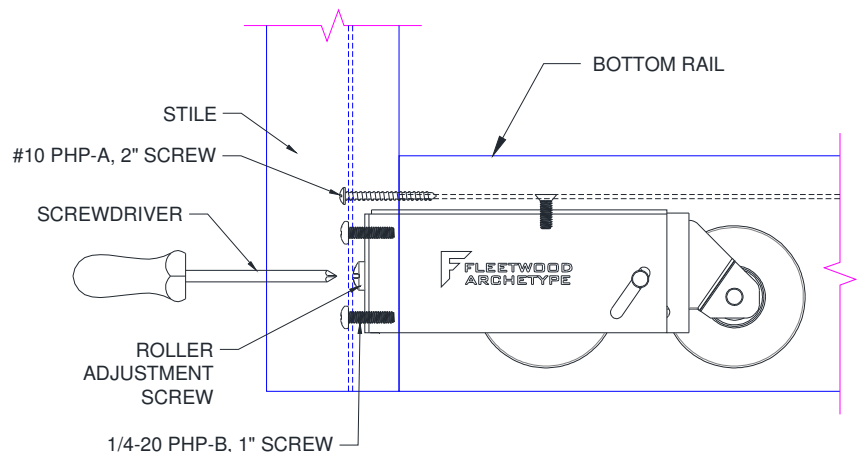

Figure 2:
1. Adjust the roller assemblies (2 required per "X" panel) to the full up right position using the adjustment screw (Figure 2).
7. Install (2) 1/4-20 UNC x 1" long pan head screws to bottom of interlocker stile or lead stile. Screws attached vertical rails to Roller Housing (Figure 2).